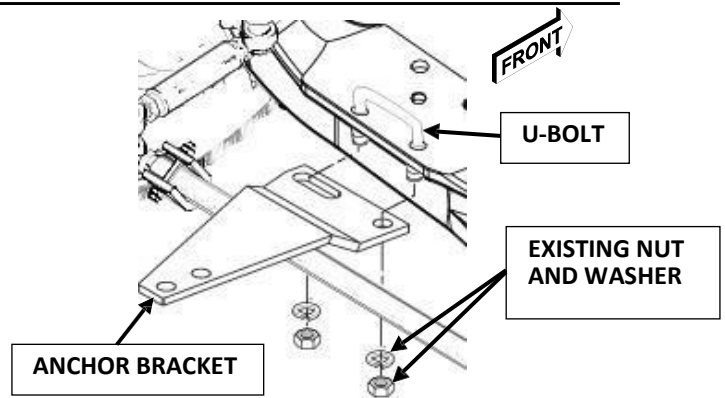

FIGURE 1. ANCHOR BRACKET INSTALL TO AXLE SUSPENSION U-BOLT
- Using a socket wrench with a 1-1/8-inch socket, remove two **existing nuts (and washers if installed)** from axle spring rear **U-bolt** on driver's side of front axle assembly. If **nuts** are difficult to remove, apply penetrating oil lubricant and re-attempt removal using a breaker bar or impact wrench for assistance (*Figure 1*).
1. Gain access to SAFE T PLUS[®] unit. Using a socket wrench with a 9/16-inch socket, loosen **Flanged Lock Nuts** on Tie-Rod Bracket **U-Bolts** so that **Tie-Rod Bracket** is no longer secured to the Tie-Rod. Be sure Tie-Rod can slide freely between the **U-Bolts** and **Tie-Rod Bracket** without binding (*Figure 1*).
2. After completion of vehicle alignment, ensure vehicle front wheels remain in the straight ahead position. Using a torque wrench with a 9/16-inch socket, torque **Flanged Lock Nuts** on Tie-Rod Bracket **U-Bolts** to **20 foot pounds** (*Figure 1*).